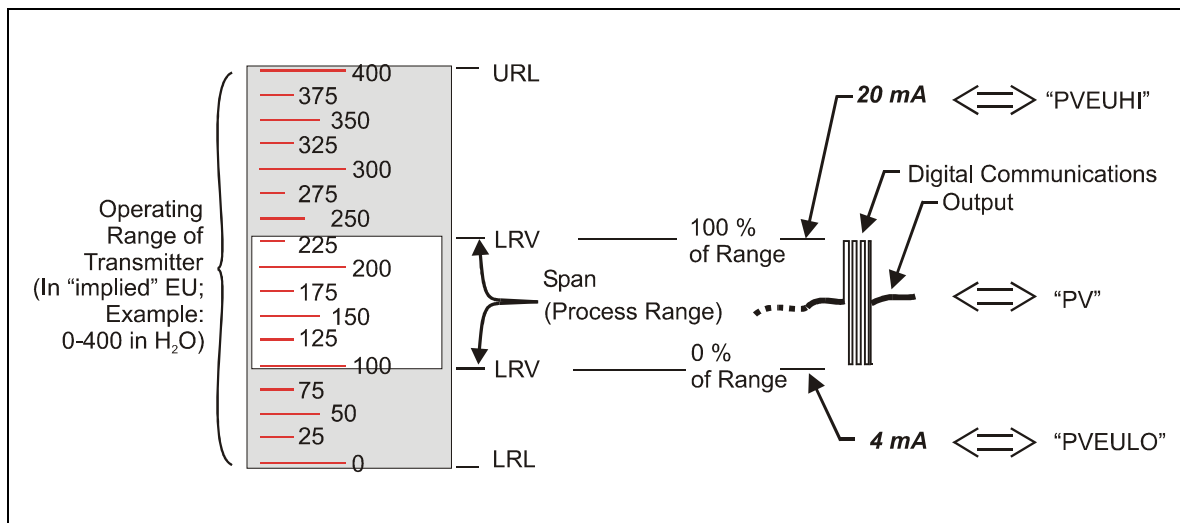

Figure 4 Honeywell Analog Value Scaling
As indicated at key number ④ in Figure 4, the Honeywell Smart Transmitter includes a path for digital communications between the sensor (via the microprocessor) and the 4-20 mA current loop that connects the transmitter to external communications devices such as process control equipment ("receiver") and/or to a MC Toolkit.
The diagram in Figure 4 provides an overview of a Honeywell transmitter operating in the analog mode.
The vertical scale at the left of Figure 4 is an example of the available range (LRL to URL) of a pressure transmitter sensor as built and characterized at the factory. The area of this scale that is highlighted in white represents the configured process operating range (LRV to URV) - in this case, from 100 in H₂O to 225 in H₂O.
Note that Engineering Units (EUs) shown in Figure 4 are included here only for reference. The transmitter does not perform any conversion of the base units value to Engineering Units. All conversion to EUs is performed in the MC Toolkit and/or in other receiving devices such as operating panels associated with control equipment. Default conversion is to inches-H₂O @39F.)
At the right of Figure 4, "PVEULO", "PV", and "PVEUHI" are examples of parameter names that appear on Honeywell control equipment, which are used as follows.
As indicated at the right of Figure 4, communications between the MC Toolkit and the Honeywell Smart Transmitter consist of digital pulse strings, with rapid transitions of current level between (approximately) 4 mA and 20 mA.